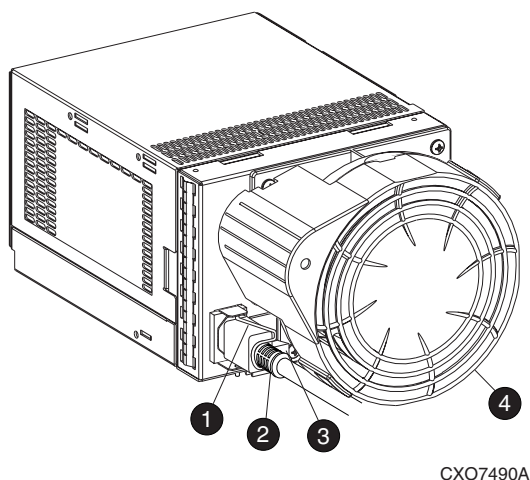

Figure 67: Disconnecting AC power
2. Move the power cord bail lock ❶, Figure 67, to the left.
3. Disconnect the AC power cord ❷ from the supply.